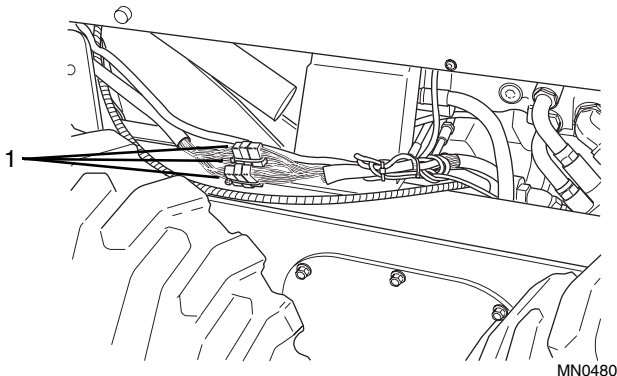

Figure 9-49 Wiring Harness Connectors
4. Disconnect three electrical harness connectors (Fig. 9-49, 1).